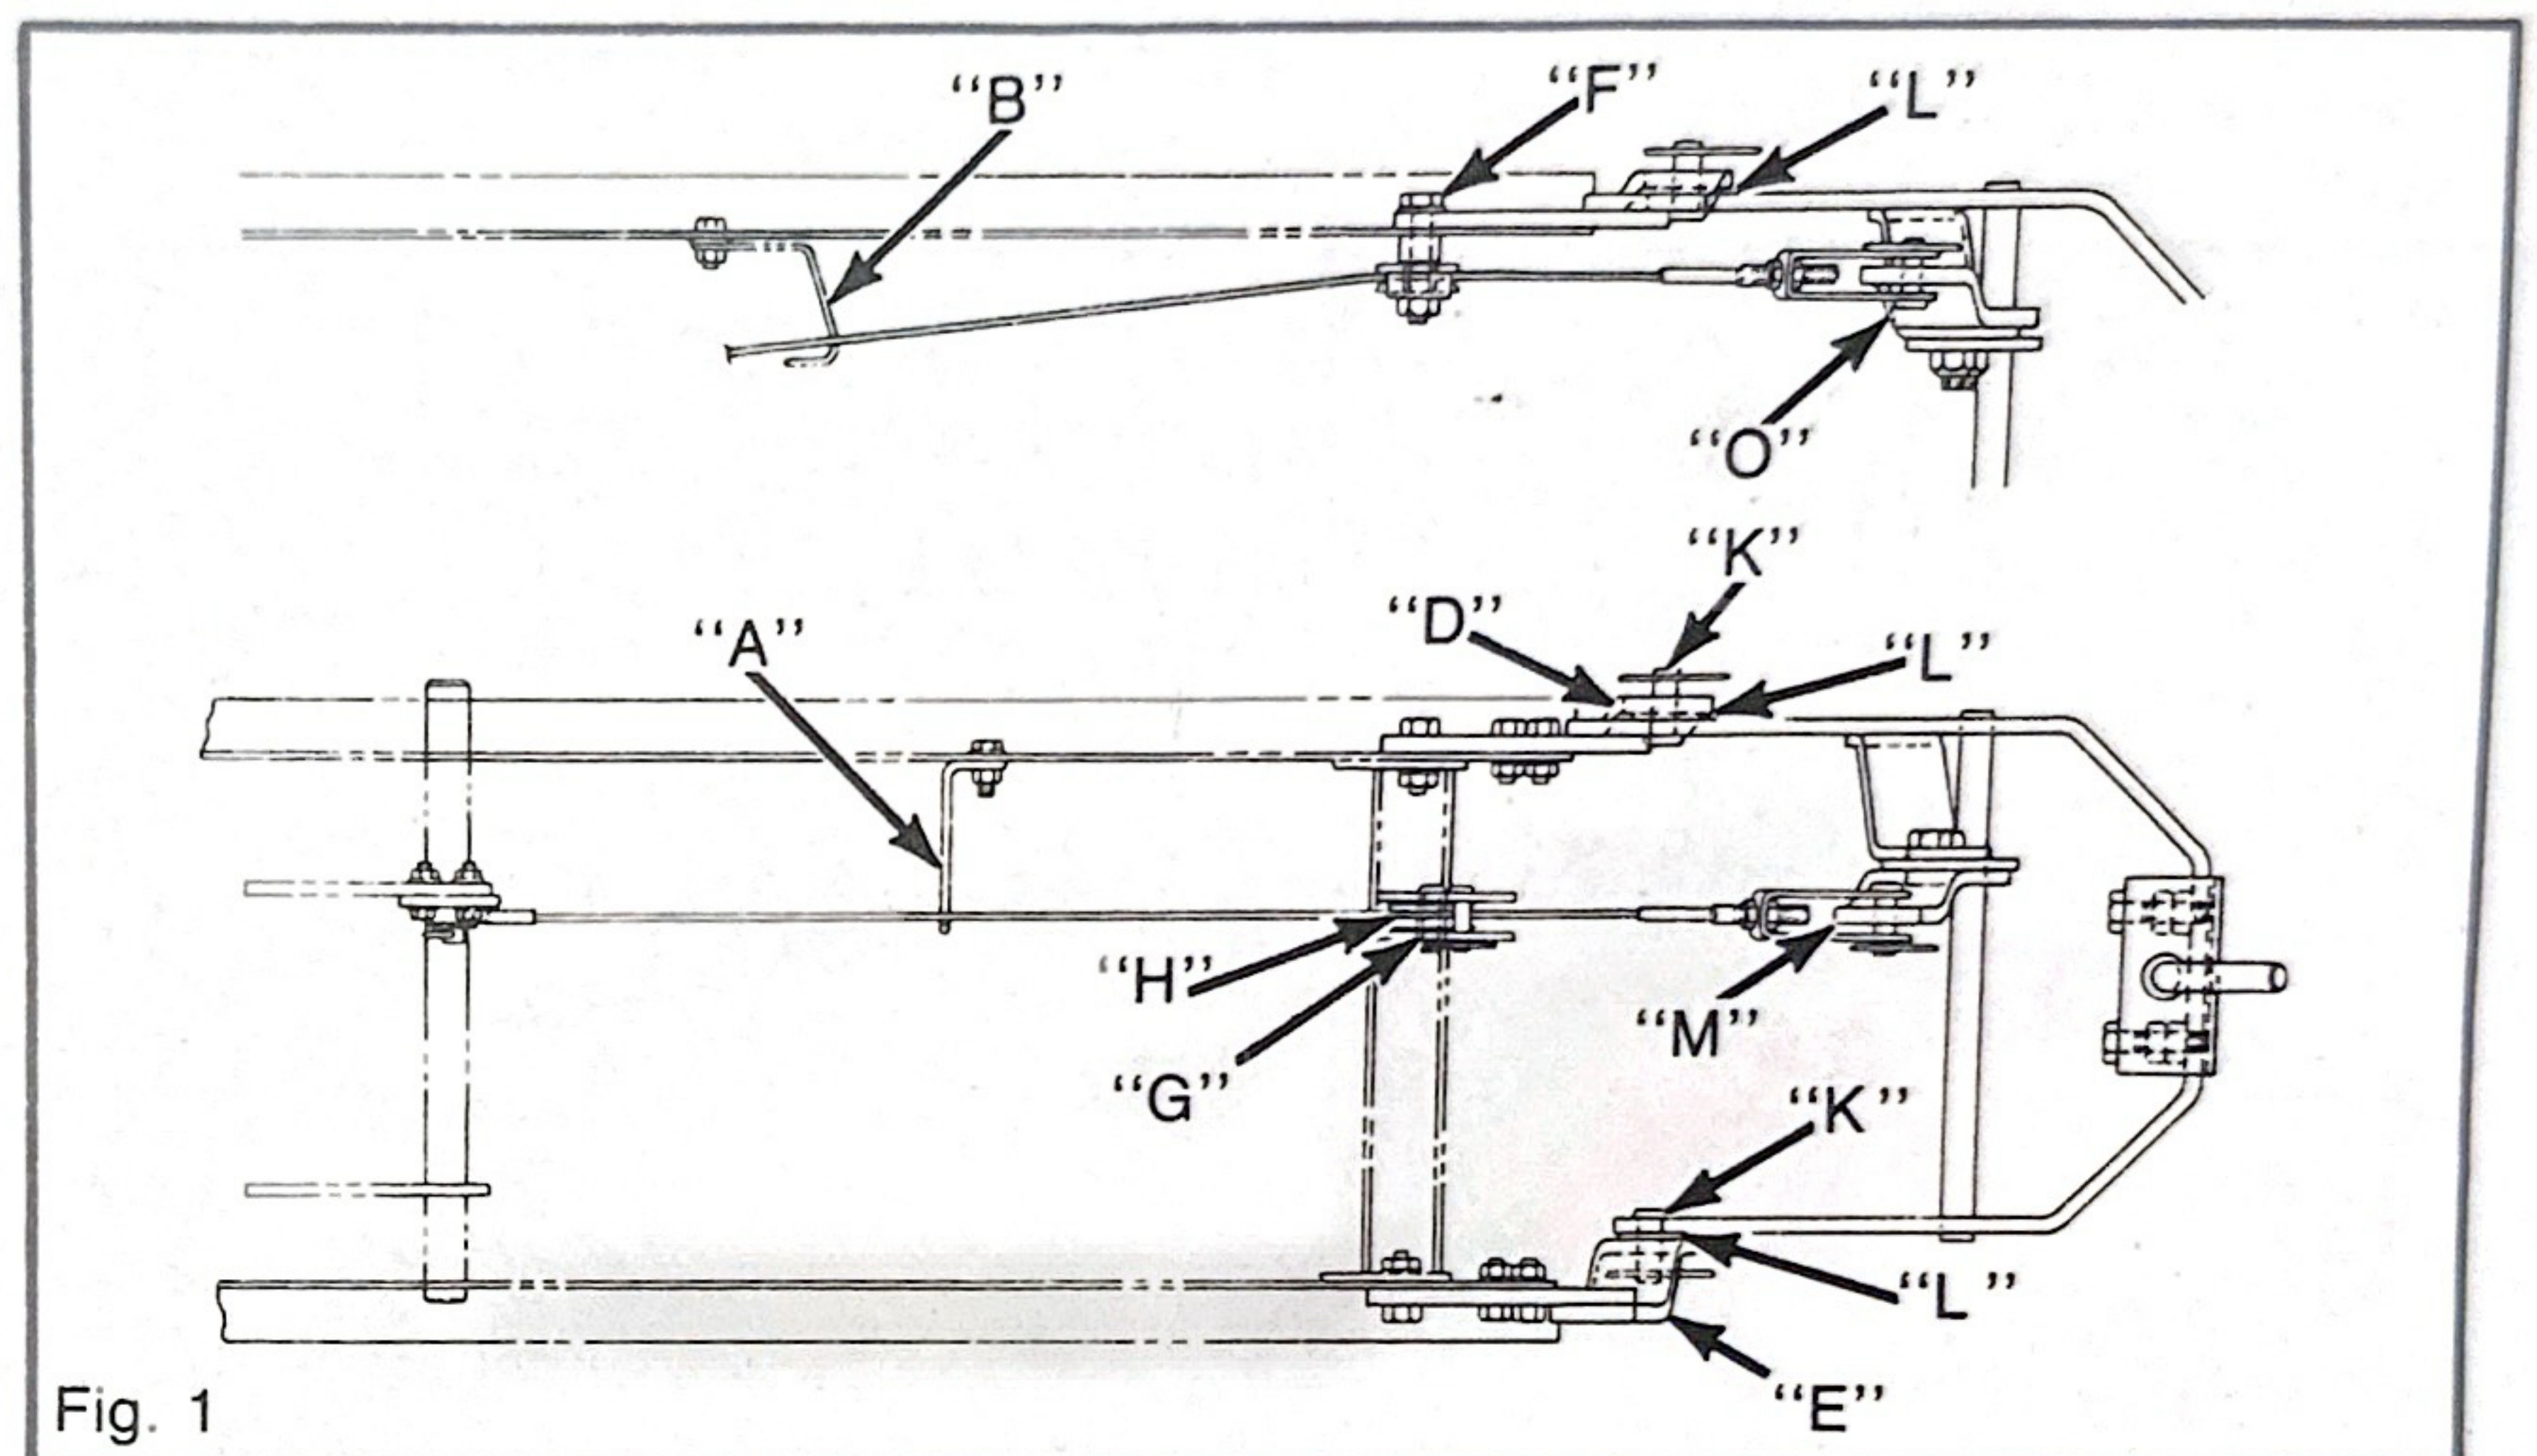
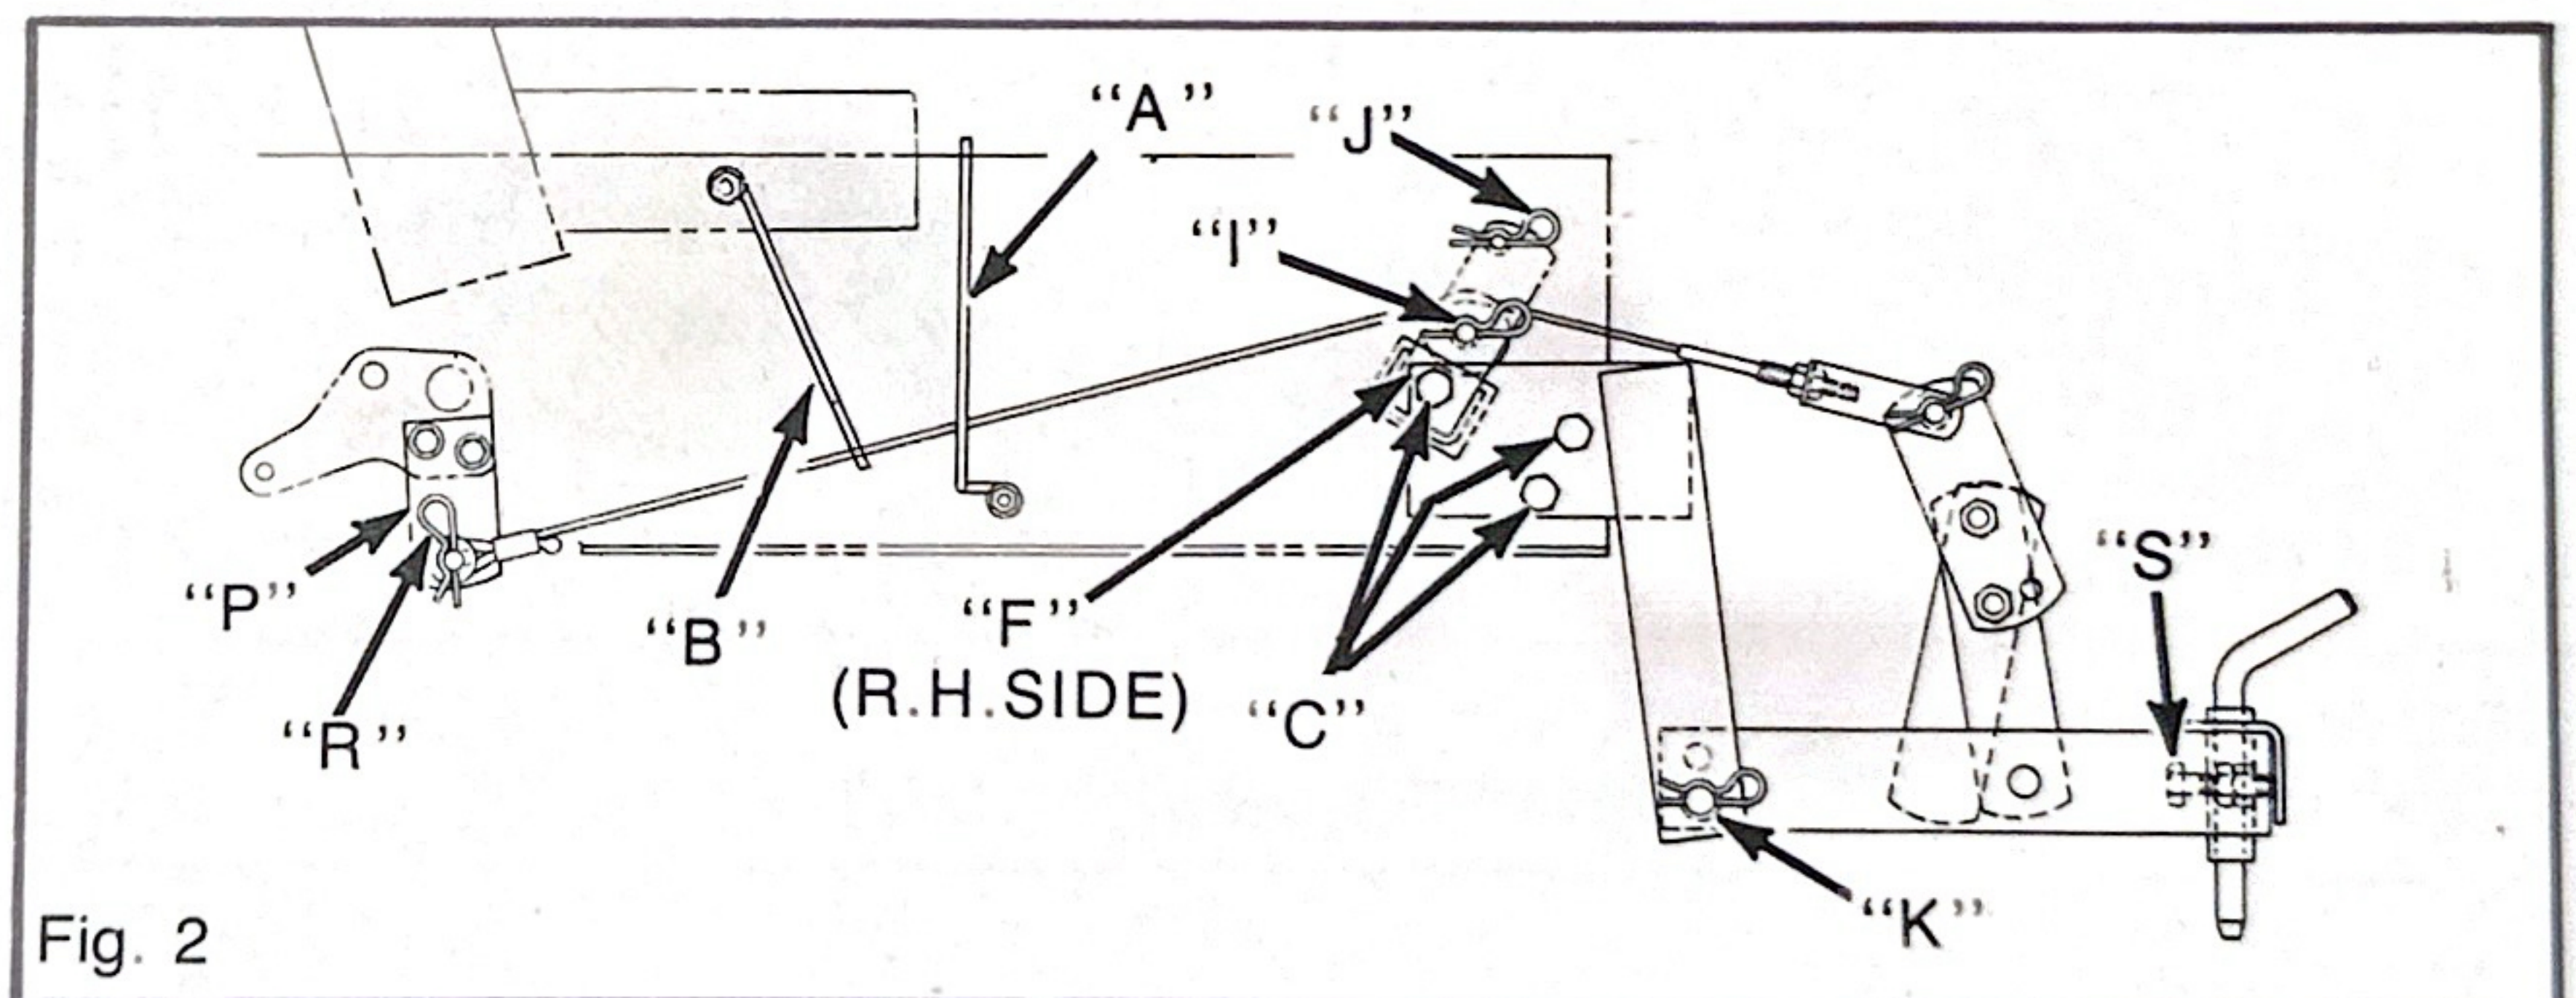

Fig. 1
Fig. 2
Assemble cable guide "A", Figure 1, to tractor R.H. frame using a 3/8-16 x 1 flange screw and flange nut.
Assemble cable guide "B", Figure 2, to tractor R.H. frame using a 3/8-16 x 1 flange screw, flat washer and lock nut.
A. Remove present hardware at (6) holes "C", Figure 2.
A. Secure R.H. and L.H. hitch arm to frame using (5) 1/2-13 x 1-1/4" hex head screws, lockwashers and hex nuts. Do not use hole "F", Figures 1 and 2, at this time. Note L.H. hitch arm has a larger offset.
A. Place small spacer "G", Figure 1 into roller "H" and secure in lower hole of bracket "I", Figure 2, using a 1/2 x 1-1/4 clevis pin and hitch pin.
Place hitch between arms and securing using (2) 5/8 x 1-1/2 clevis pins and hitch pins "K". Place 5/8" flat washers between hitch arm and hitch at points "L", Figure 1, to remove any excess gap.
A. Assemble Extension Arm "M", Figures 1 and 4, as shown, to the in-
A. Assemble Extension Arm "O", Figures 1 and 4, as shown, to outside of hitch arm using (2) 1/2-13 x 1-1/2" hex screws, lock washer and nuts.
A. Secure extension arm "P", Figure 2, to the inside R.H. lift arm using (2) 3/8-16 x 1" flange screw and flange nuts.
Make sure lift cable is inside of guides "A" and "B", Figure 1.
Capscrews (S), Figure 2, are for stabilizing and eliminating side sway of the rear attachment. They also can be used to adjust the angle of the attachment draw bar to the hitch.